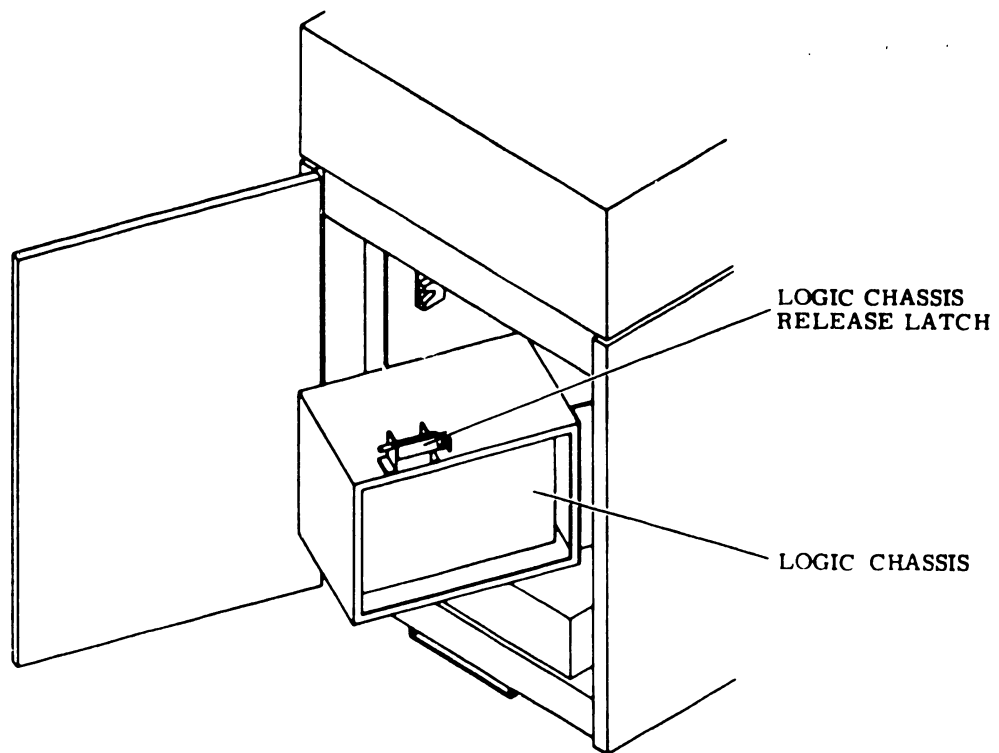

FIGURE 4-14 LOGIC CHASSIS
- B. Verify that all logic cards are firmly seated in logic chassis and power supply (Figures 4-14 and 4-16).
The logic chassis is located at the rear of the drive and is accessed by opening the rear door. Releasing the catch on the logic chassis allows it to swing outward, thus permitting access to the card cage (refer to Figure 4-14). The card cage cover must be removed in order to reach the logic cards. When opening and closing the logic chassis, use care not to damage the cables or air hose.